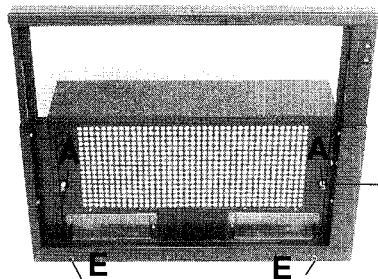
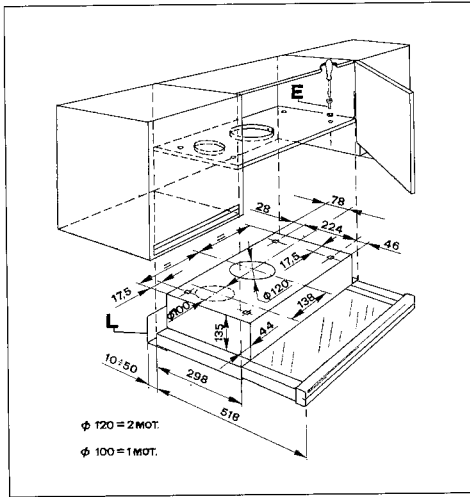
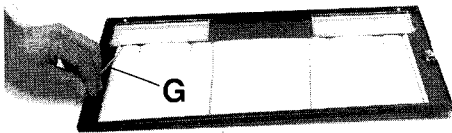

Fig. 2
Fig. 4
Fig. 5
- Open the grill by turning the locks A (fig. 2).
- Drill the holes on the bottom of the cupboard using the drilling diagram supplied with the unit. From inside the hood insert the 4 screws E 3,5x35 (fig. 4) supplied with the unit and screw them onto the
nuts F (fig. 6-7). Adjust the angle frame L (fig. 4) tightly to the wall, making use of the apposite screws E (fig. 2). Make a hole dia. 110-115 mm. on the bottom and the top of the cupboard (130-135 mm. in case of hoods with two motors) for the passage of the exhaust pipe.
**2) Filter in layers of stretched aluminium:** at more or less frequent intervals according to the use of the appliance, in any case at least once every 30 days of normal use, wash the filter in the dish washer or in soapy water. In order to remove the filter first remove the grill by turning the locks A (fig. 2). Remove the stops G (fig. 5) and take out the filter H. It is advisable when cleaning the grease filter to also wash the grill in lukewarm water and soap.